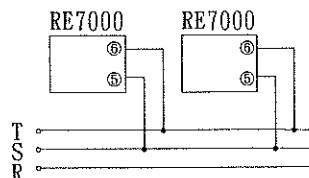

Fig. 20
- (4) Power supply must be connected in phase. (See Fig. 20)